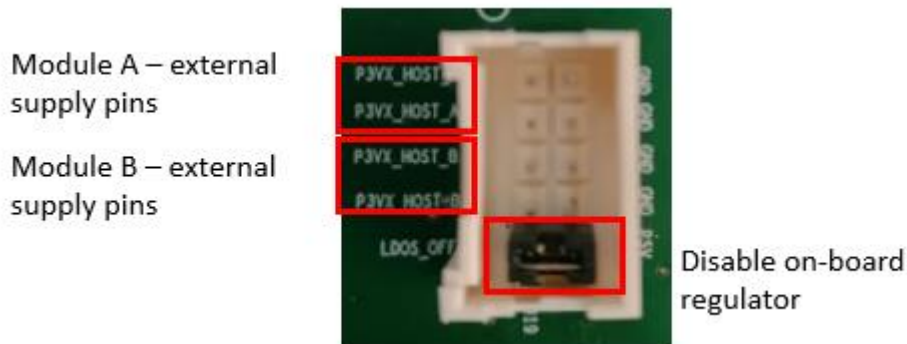

Figure 1: External Power Source
- Apply external 3.3 V at P3VX_HOST pins of U319 connector, shown in the Figure 1.